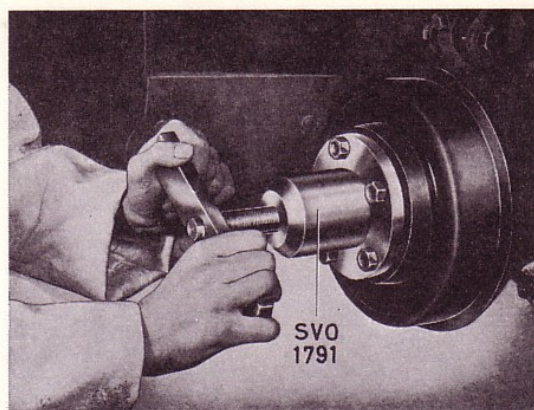

Fig. 21. Removing the hub.
2. Release the handbrake. Pull off the hub with tool SVO 1791, see Fig. 21. Put on protecting sleeve SVO 2581 before fitting the puller. The sleeve protects the threads on the drive shaft.